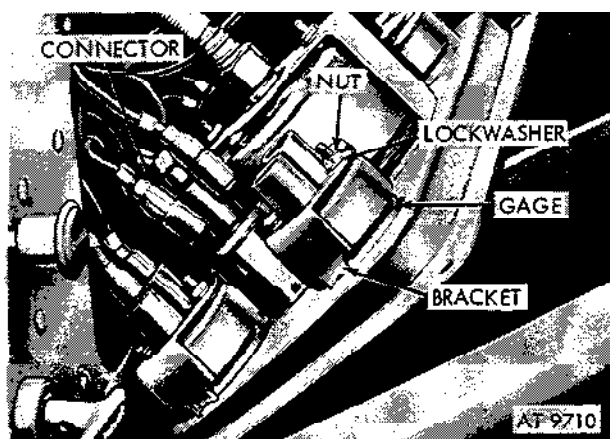

Figure 2-263. Remove fuel gage from retaining bracket.
(1) Remove instrument cluster (para 2-101). Separate connectors at fuel gage (fig. 2-263).
(2) Remove two nuts and lockwashers securing fuel gage and remove retaining bracket and fuel gage (fig. 2-263).